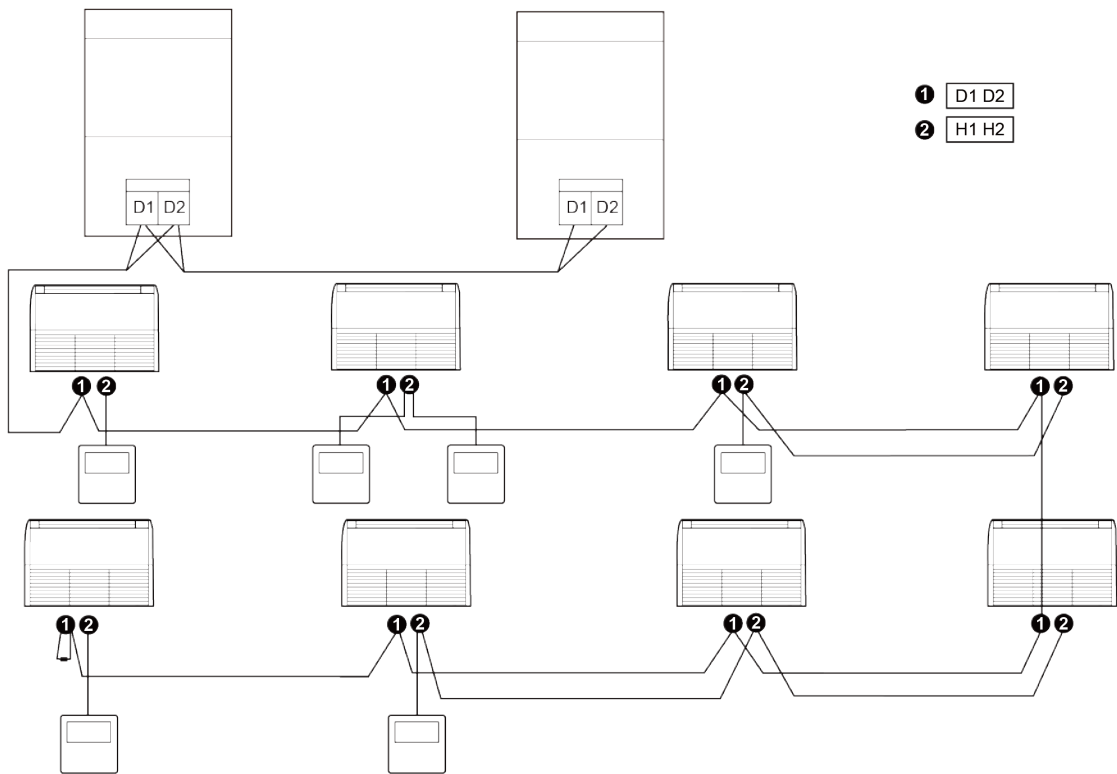

Fig.5.5.1
- (1) Communication wire of indoor unit and outdoor unit (or indoor unit) is connected to D1, D2.
- (2) Wired controller is connected to H1, H2.
- (3) One indoor unit can connect two wired controllers that must be set as master one and slave one.
- (4) One wired controller can control 16 indoor units in maximum at the same time (As shown in Fig.5.5.1).